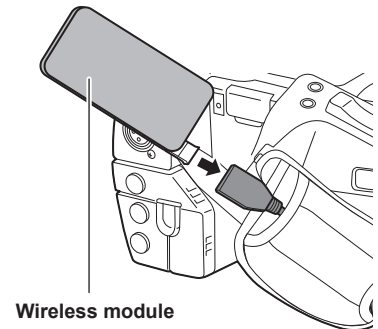

Fig. 6
- 5** Connect the wireless module. (Fig. 6)